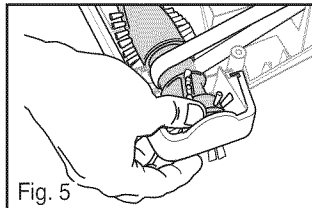

Fig. 5
- Push tool onto end of wand (Fig. 5).
- Insert left end of brush roll first. Make sure end cap fits into base. Pull right side of brush roll to stretch belt and insert right end cap into base (Fig. 5). Make sure it slides into position.